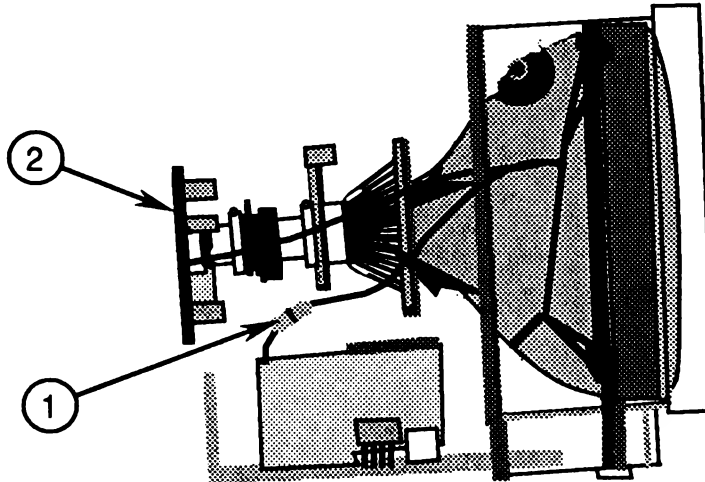

FIGURE 52
16. Reconnect the white CRT ground wire at its plug-in connector (Figure 52, #1).
17. Reconnect the CRT socket board to the CRT neck (Figure 52, #2). It fits only one way.